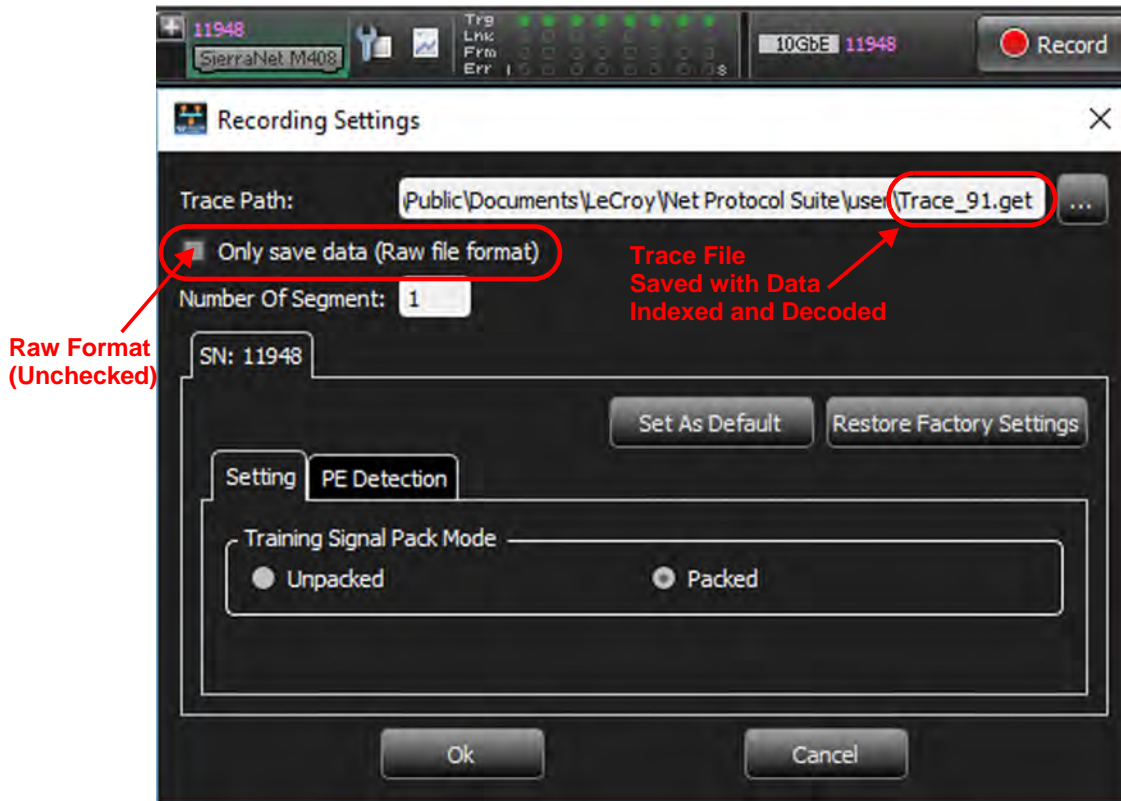

Figure 4.78: Recording Settings Window – M408 10GbE
- ❑ Indexed and Decoded (trace data saved as **.get** file with Indexing and Decoding) see Figure 4.78.